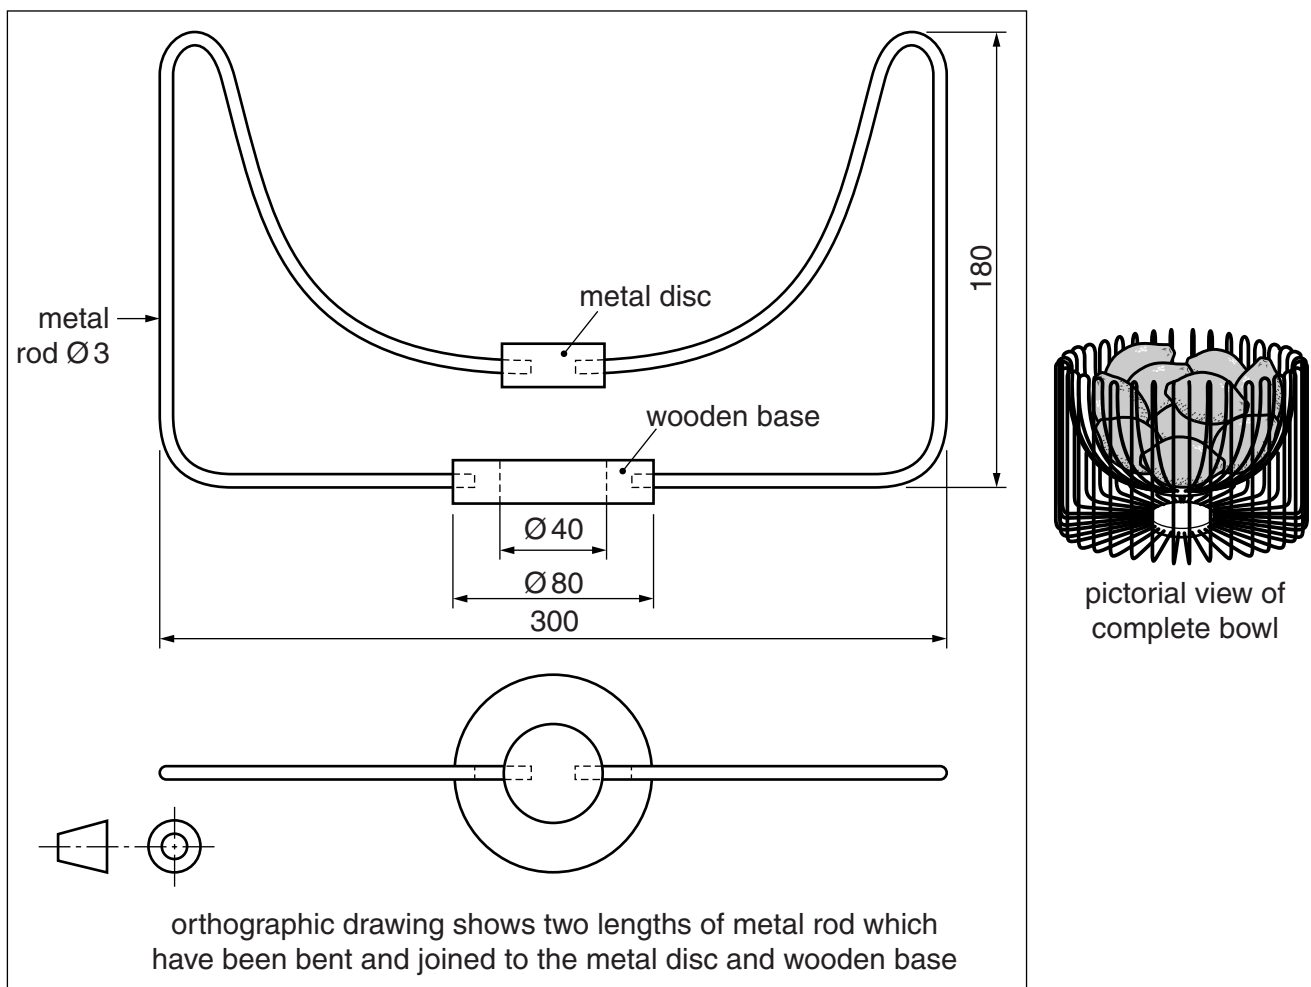

Fig. 2
- 2 Fig. 2 gives details about a fruit bowl which is to be made in a school workshop. The fruit bowl will be made from 30 lengths of 3 mm diameter metal rod which will be bent and then joined to a metal disc and a wooden base.